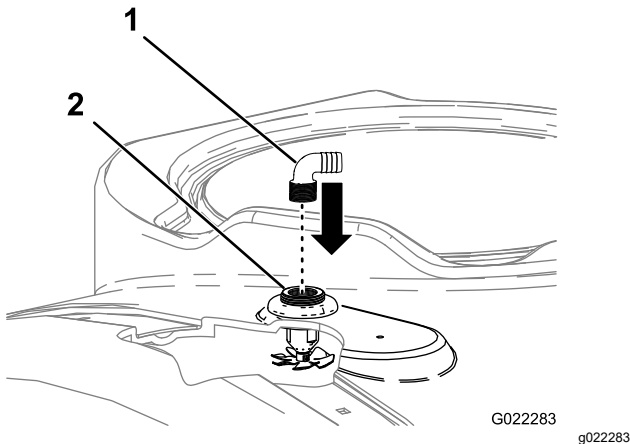

Figure 6
4. Install the 2 rinse nozzle hosebarbs into the threaded openings of the rinse nozzle bulkheads (Figure 6).